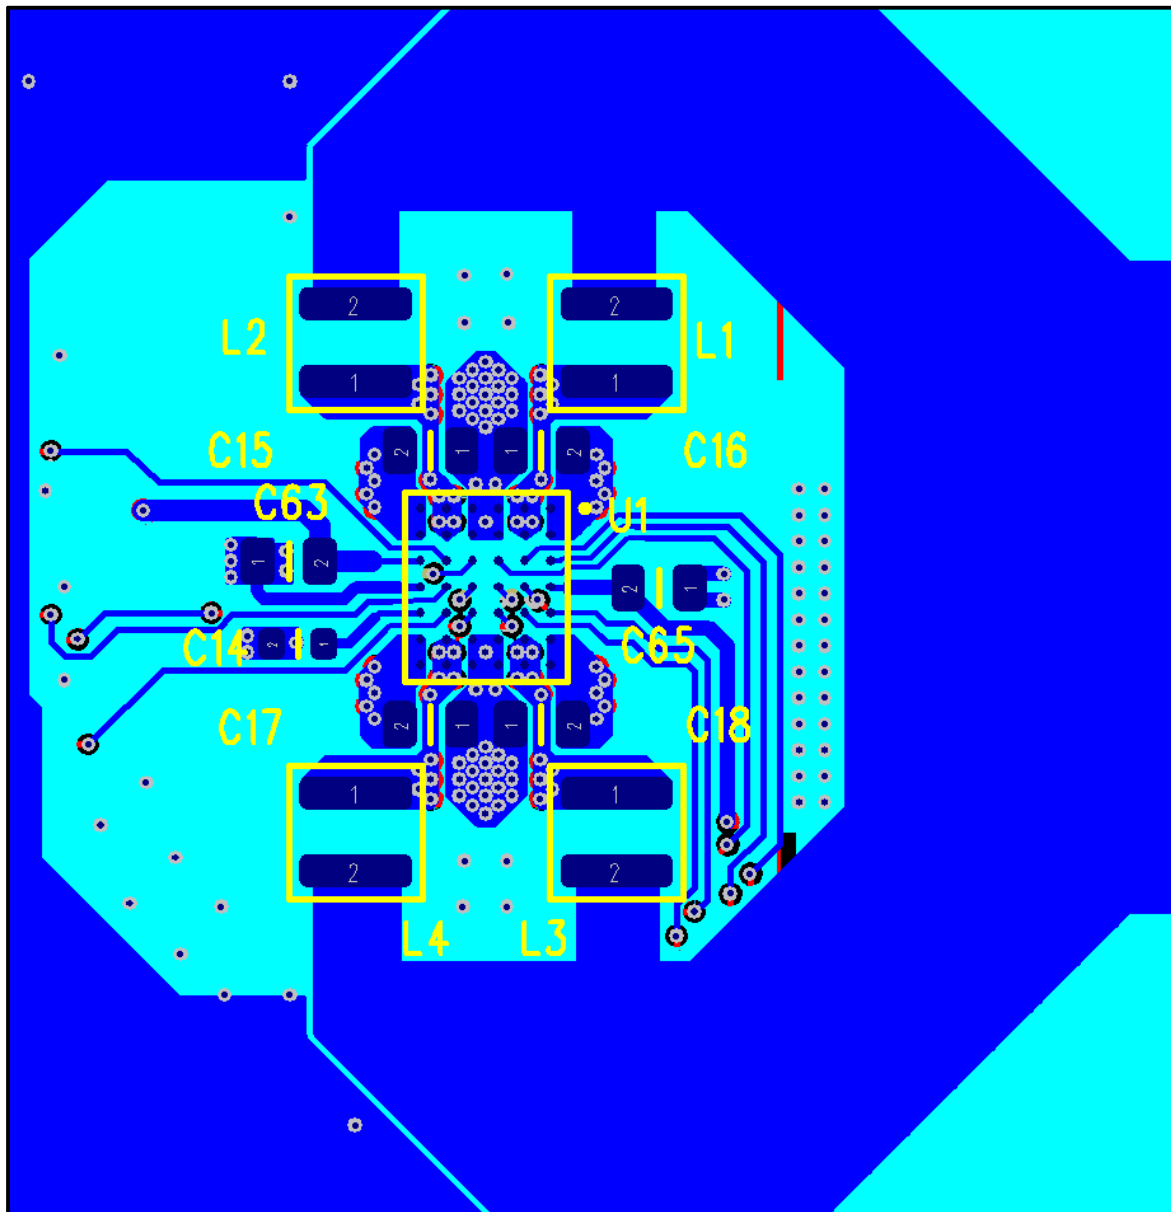

Figure 4: Example of components placement on 4-layer PCB
- Figure 4: Example of components placement on 4-layer PCB 8
Differential feedback lines must be taken from the load point and routed back carefully to the DA9210 pins to precisely control the voltage at the load point. This is described in the next sections. As an example, a 4-layer PCB was designed using PTH via technique as shown in Figure 4.